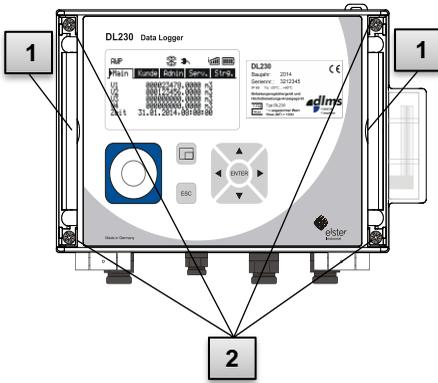

Fig. 24
11. Close the housing using the four screws provided (Fig. 24 2).